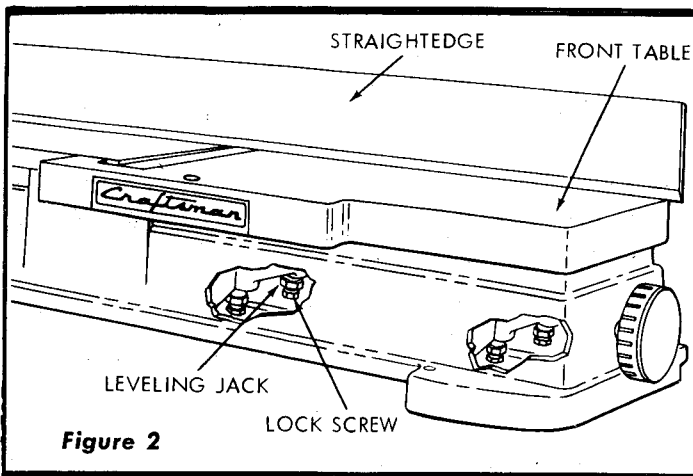
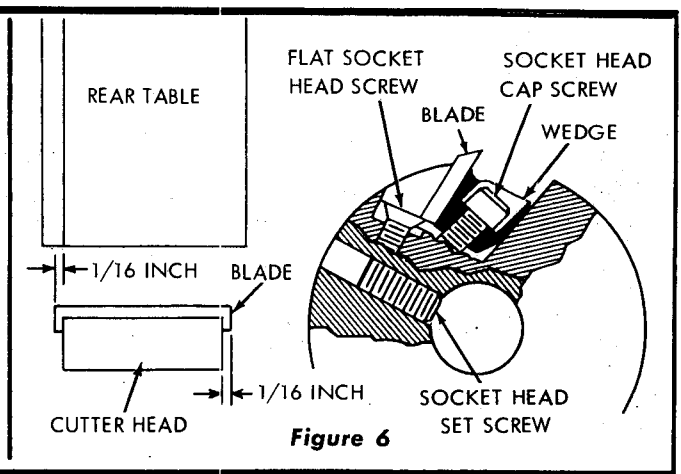

Figure 2
Figure 6
- a. Loosen the four lock screws several turns. (See figure 2.)
- b. Place a straight-edge across both tables and adjust the two leveling jacks, nearest the cutter head, and one of the two leveling jacks at the front, until both the front and rear tables are in perfect alignment. (See figure 2.)
- d. Tighten the four lock screws. The leveling jacks must be held securely while turning the lock screws. (See figure 2.)
(See figure 6.)
- b. Slide blade in place so that it projects 1/16-inch at right-hand side of cutter head. Make sure all three blades project 1/16-inch at right-hand side. Check with accurate straight-edge. (See figure 6.)
- c. With the straight-edge on the tables as shown in figure 2, position the blades by adjusting the height of the two flat, socket-head screws. (See figure 6.) Each knife edge should just touch the straight-edge lightly at either end of the blade, as the cutter head is turned by hand.